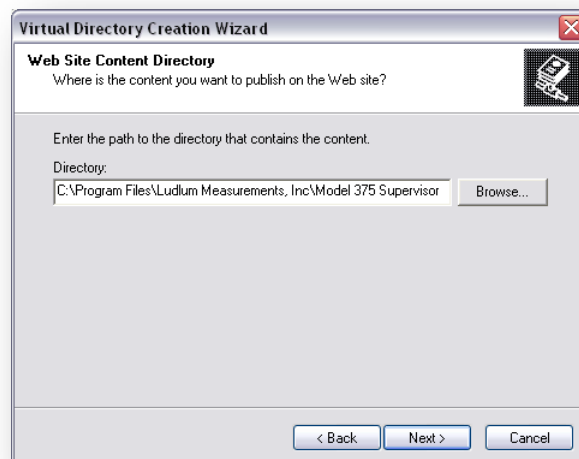

Figure 71 – Virtual Directory Creation Wizard (Web Site Content Directory)
9. Confirm that the selected setup information is correct and click “Install”. See Figure 71.